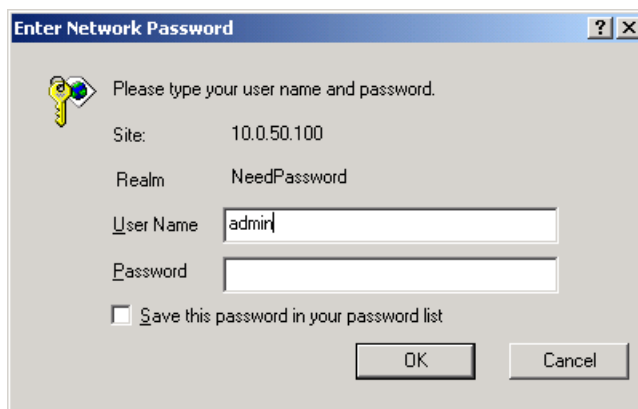

Fig. 22. login the system via Web
2. The following authentication screen shall appear (Fig. 22) Enter desired **user name** and **password** then click on OK. The default user name is **admin** and the default password is null (left it blank).